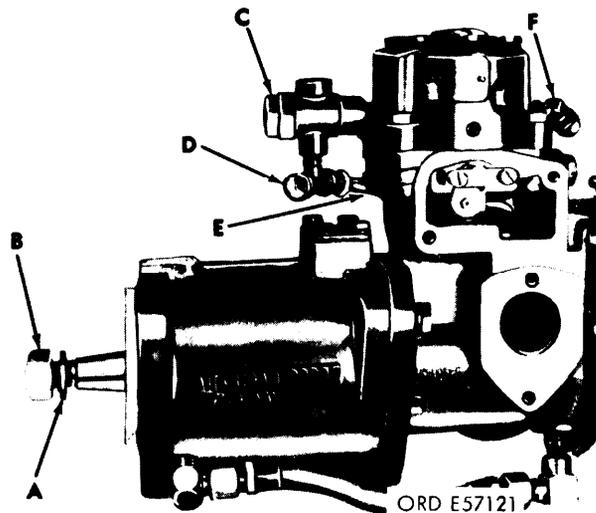
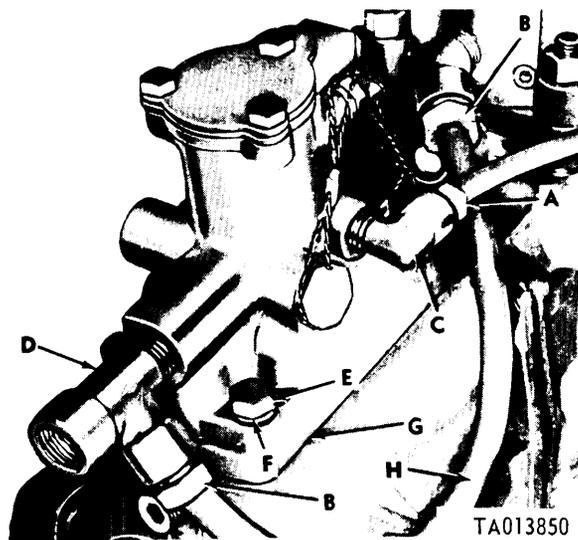
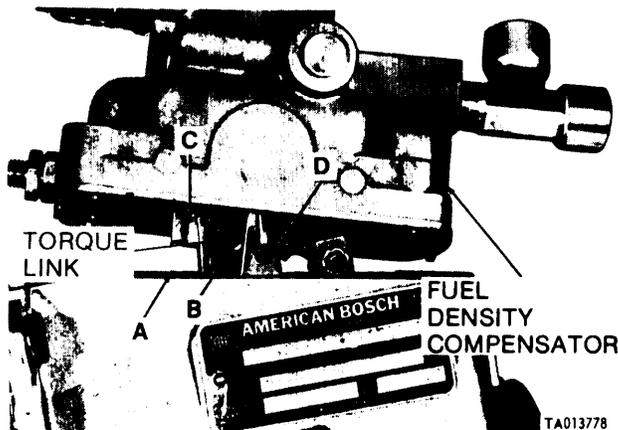

Figure 3-152. Installing overflow valve assembly
Figure 3-153. Installing fuel density compensator assembly.
Figure 3-155. Assembling fuel density compensator fuel stop plates (Code A pumps).
b. Installation, Refer to figure 3-152. Install lock-washer (A) and stet nut (B) on advance unit shaft. Tighten nut finger tight. Install overflow valve assembly (C) in position on hydraulic head.
3-46. Installation of Fuel Density Compensator. a. Installation of Fuel Density Compensator (Code B, C, D, E and F pumps). Refer to figure 3-153. Position a new mounting gasket (G) on governor housing. Position fuel density compensator on governor housing and secure with four 1/4 x 1 1/4 capscrews (E) and four 1/4 inch lockwashers (F). Torque tighten screws 50-60 inch-pounds. Install density compensator to overflow valve tubing (E, fig. 3-152). Connect tubing (A) to elbow (C). Install tubing (H) to tee (D) and elbow in hydraulic head (B).
b. *Installation of Fuel Density Compensator (Code A Pumps).* Refer to figure 3-155, Position a new mounting gasket (A) on governor housing. Engage dovetail in torque link stop (B) with dovetails on guide (C) and compensator plate (D). All divetails must be properly engaged. Refer to a above and figure 3-153 to complete installation of compensator on injection pump.